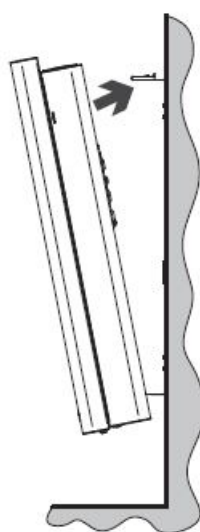

FIGURE 4
2. Tilt the top of the unit and snap it. (FIGURE 4)